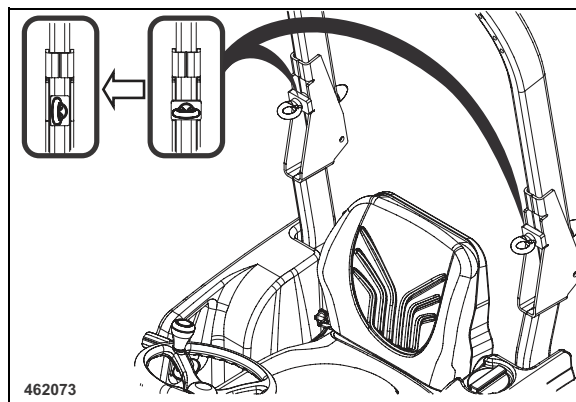

Fig. 107
- Fold down the foldable ROPS¹ for transport. Loosen the eye bolts (Fig. 107) and adjust the clamping plates vertically.